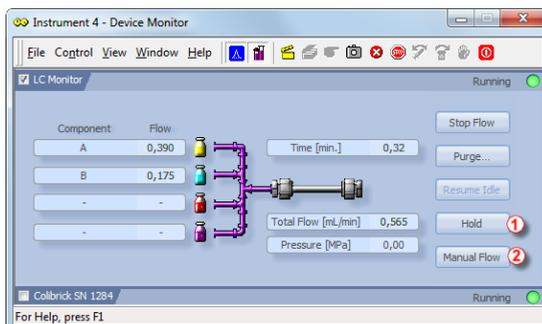
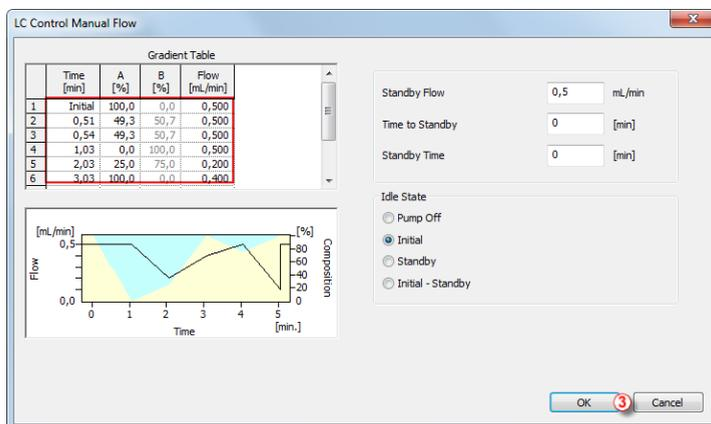

Fig 13: Device Monitor window - current status
Fig 14: LC Control Manual Flow window - Gradient Table
- **Hold** ① button in **Fig 13** on pg 13. will keep the current gradient conditions until pressing *Resume* again. Note that the *Hold* button does not affect acquisition.
- **Manual Flow** ② button in **Fig 13** on pg 13. allows editing of the gradient table during running acquisition by opening the **LC Control Manual Flow** window as seen in **Fig 14** on pg 13.